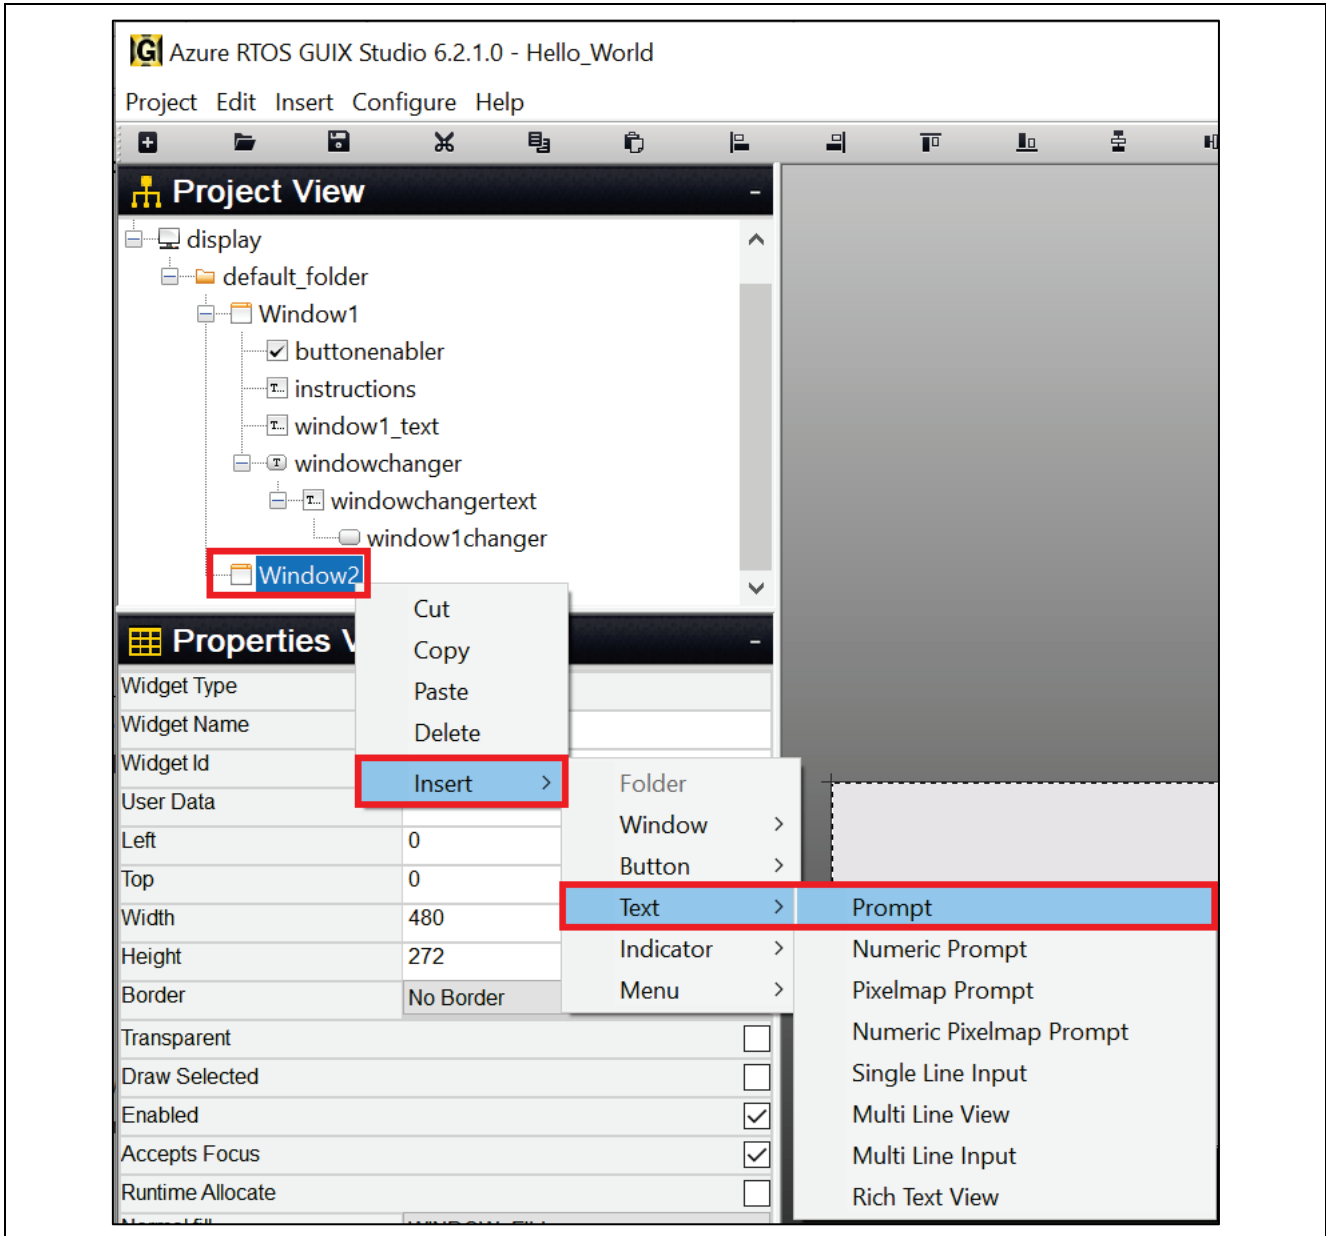

Figure 63. Insert Prompt for Window2
25. Insert **Prompt** for Window2. Right click from **Window2**. **Insert > Text > Prompt** follow Figure 63.